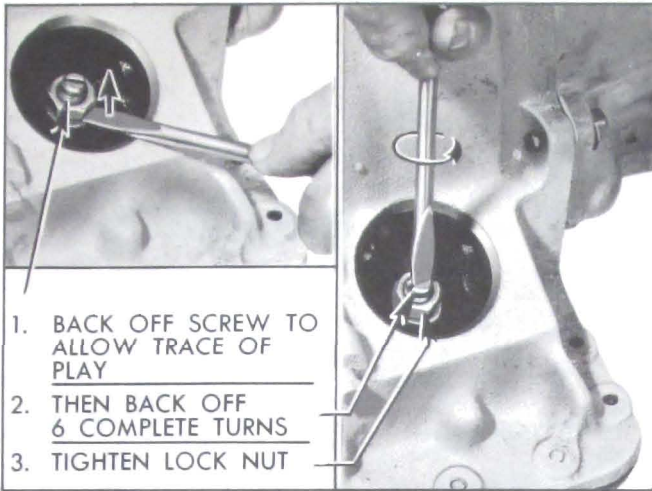

Figure 5-134—Band Adjustment
1. Loosen lock nut and turn adjusting screw clockwise until considerable resistance is felt, indicating that band is in full contact with the drum (low) or ring gear (reverse). See Figure 5-134.
2. Back off screw until just a trace of play can be felt by prying up on lock nut with screwdriver. From that point, back off screw six (6) complete turns and snug up the lock nut. See Figure 5-134.